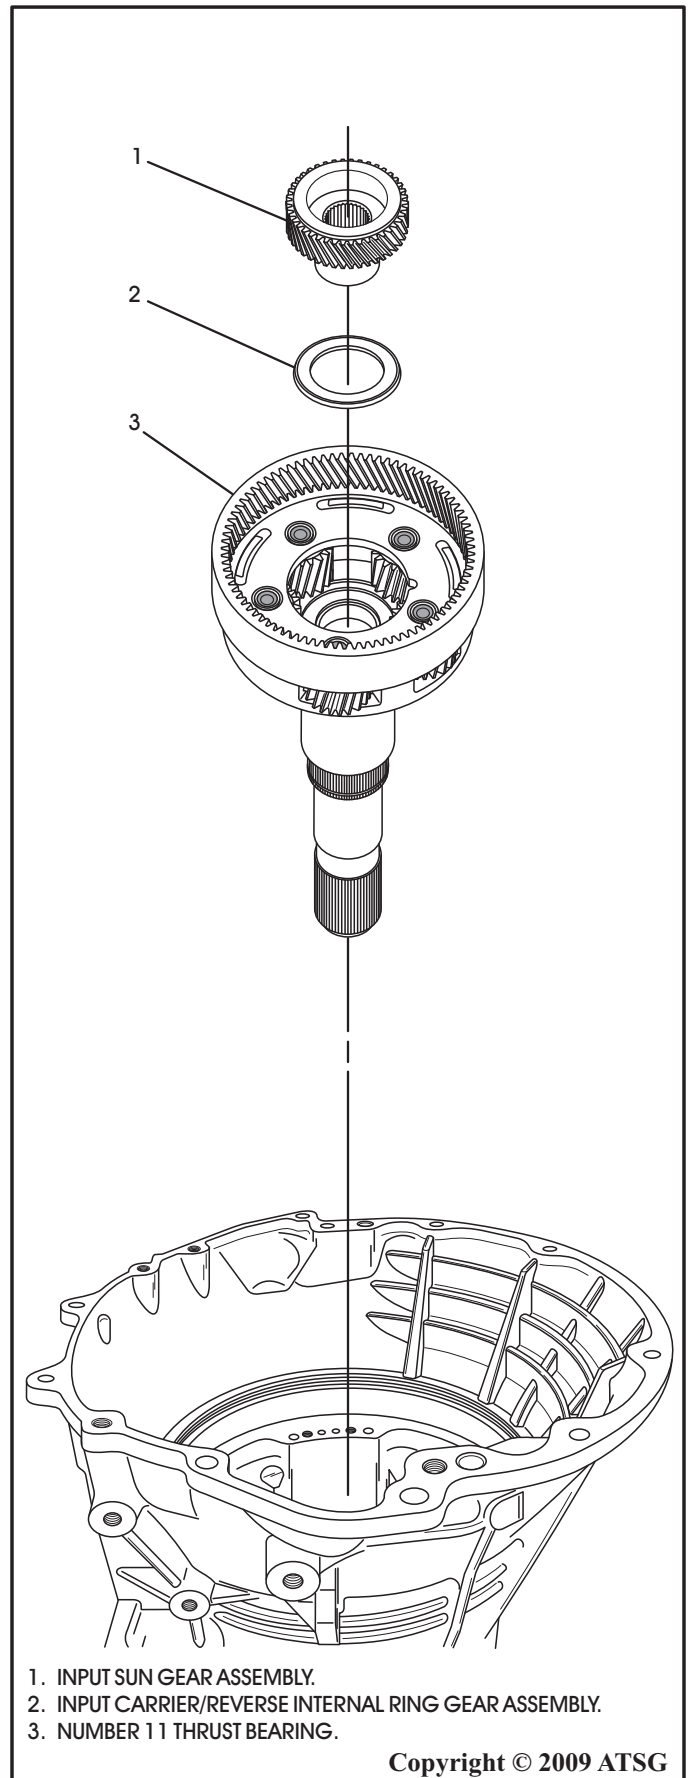

Figure 43
44. Remove the input sun gear assembly as shown in Figure 43.
45. Remove the number 11 thrust bearing as shown in Figure 43.
46. Remove the input planetary carrier/reverse internal ring gear as shown in Figure 43.